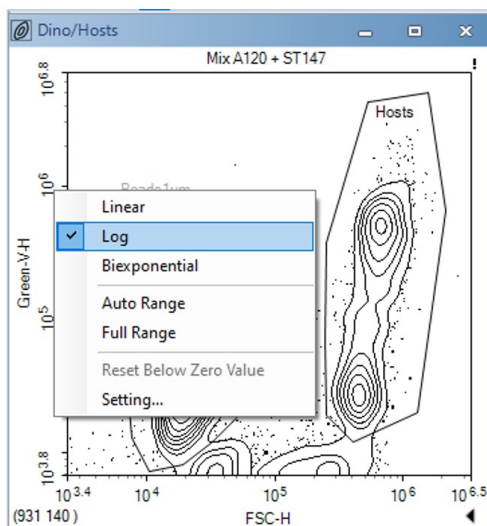

Figure 13: Selection of the scale type of the axis of a plot.
- 5.2 2) Define the scales for the axes (refer to Fig. 13): Set the parameters' axis scale to "log" and the counts' axis scale (y-axis of the histogram) to "linear". This will enhance the contrast between the populations and improve visibility.
- 5.3 3) Define the axis of the 2D plot (refer to Fig. 13): Set the y-axis as Green-V-H and the x-axis as FSC-H.